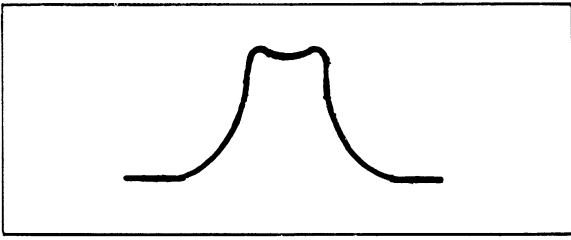

Figure 6-9. Typical Appearance of Detected Output With Sweep Generation Output
- f. Figure 6-9 shows a typical front end frequency response obtained during sweep frequency measurement. The saddle-backed shape is typical of slightly over-coupled tuned circuits, and also of properly adjusted staggered tuned channels. Become familiar with the set-up of such a display on a TV set known to be good. Comparison with this technique perfected can one be fairly sure that an improper display is the set's fault. A minor departure usually can be remedied by tuning adjustments. A major departure might also indicate a loose connection in a tuner, or possibly the need to find and replace a faulty component.